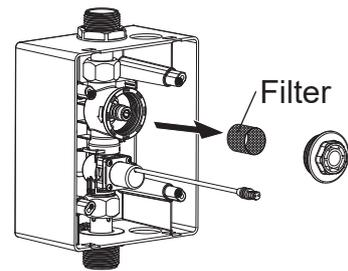

Figure 3
4. Remove the filter and clean under running water (Fig. 3)